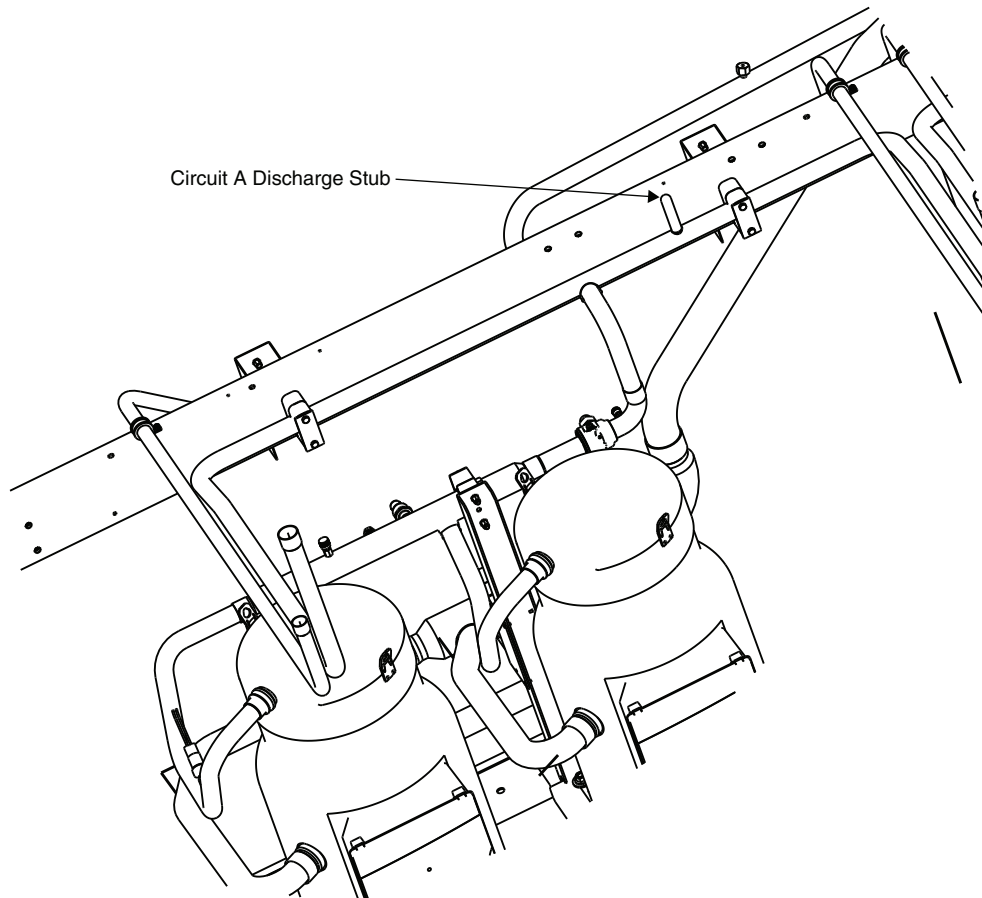

Fig. 2 — Typical Discharge Stub Tube View
3. Locate the factory-supplied stub on the discharge line of circuit A. See Fig. 2.